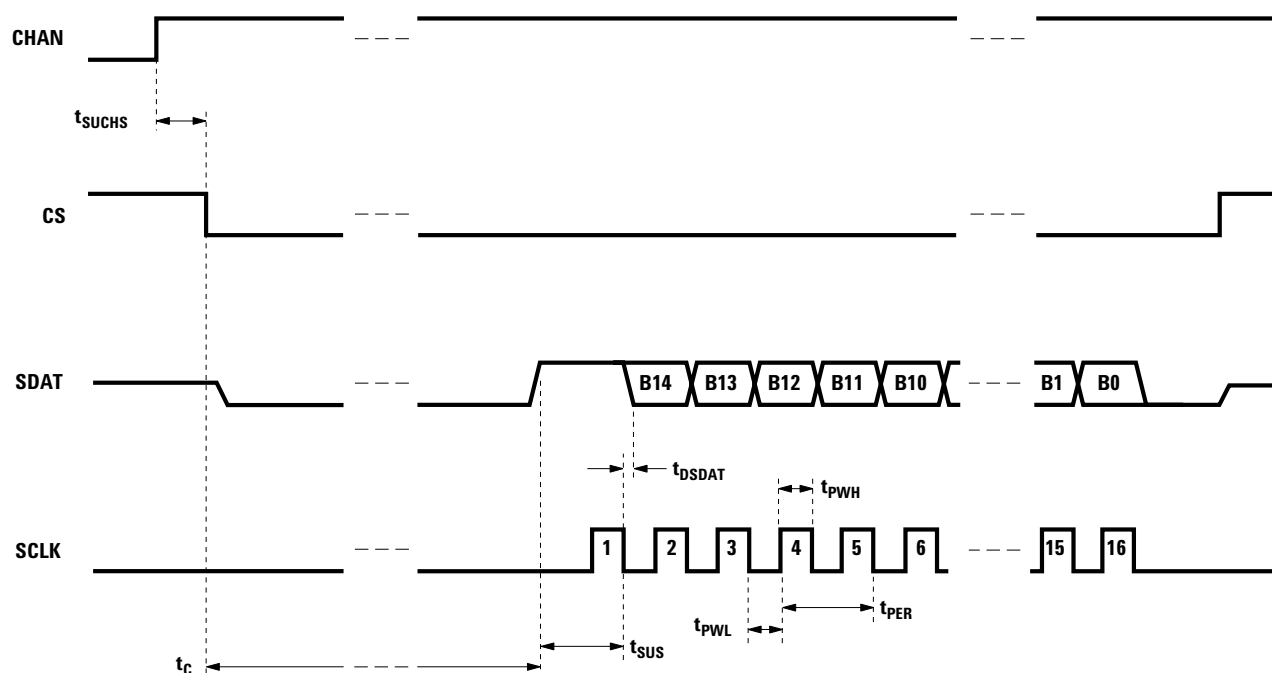

Figure 2. Conversion Timing.
Figure 2 illustrates the timing for one complete conversion cycle. A conversion cycle is initiated on the falling edge of the convert start signal (CS); CS should be held low during the entire conversion cycle. When CS is brought low, the serial output data line (SDAT) changes from a high-impedance to the low state, indicating that the converter is busy. A rising edge on SDAT indicates that data is ready to be clocked out. The output data is clocked out on the negative edges of the serial clock pulses (SCLK), MSB first. A total of 16 pulses is needed to clock out all of the data. After the last clock pulse, CS should be brought high again, causing SDAT to return to a high-impedance state, completing the conversion cycle. If the external circuit uses the positive edges of SCLK to clock in the data, then a total of sixteen bits is clocked in, the first bit is always high (indicating that data is ready) followed by 15 data bits. If fewer than 16 cycles of SCLK are input before CS is brought high, the conversion cycle will terminate and SDAT will go to the high-impedance state after a few cycles of the Isolated Modulator's clock.